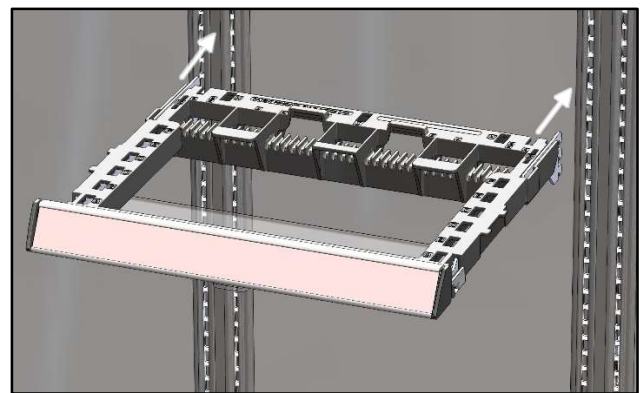

Figure 27
5. Install the Carrier Trays on the wall by inserting the bracket hooks into the Upright slots and dropping the assembly into place. Install the top hooks into the slot number indicated on the Plan-O-Gram (See Figure 27).